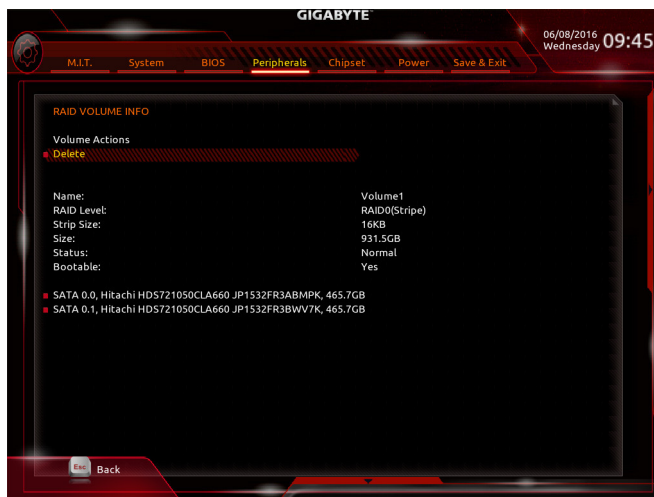

Figure 11
After completing, you'll be brought back to the **Intel(R) Rapid Storage Technology** screen. Under **RAID Volumes** you can see the new RAID volume. To see more detailed information, press <Enter> on the volume to check for information on RAID level, stripe block size, array name, and array capacity, etc. (Figure 11).